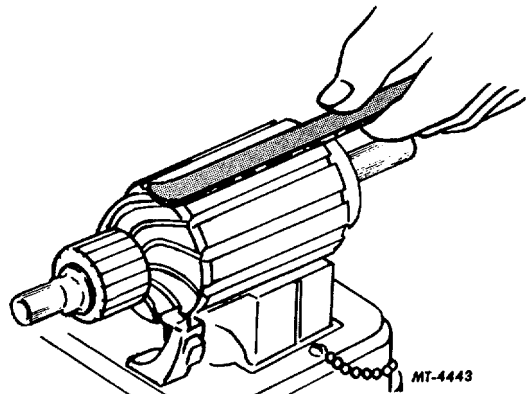

Fig. 11. Testing Armature for Short Circuits
- a. Short circuits are located by turning the armature in a growler while holding a steel strip on the armature. The steel strip will vibrate on the area of the short circuit, see Fig. 11.